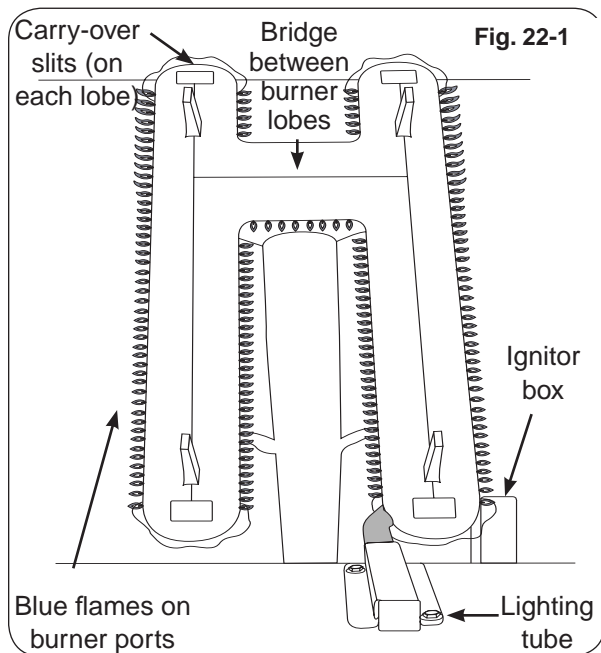

Fig. 22-1
Flames from a properly adjusted main burner with no wind or breeze present will appear fairly steady, consistent, and almost entirely blue. The extreme tips of the flames may be light yellow. If the tip of a flame were to turn orange, it should only do so briefly and then become blue or light yellow again. The flames will appear to burn while touching the burner ports (see Figure 22-1).
5. Repeat steps 1-4 until the flames appear to touch the burner ports, burning fairly steadily and almost entirely blue with occasional light-yellow tips (see Fig. 22-1).